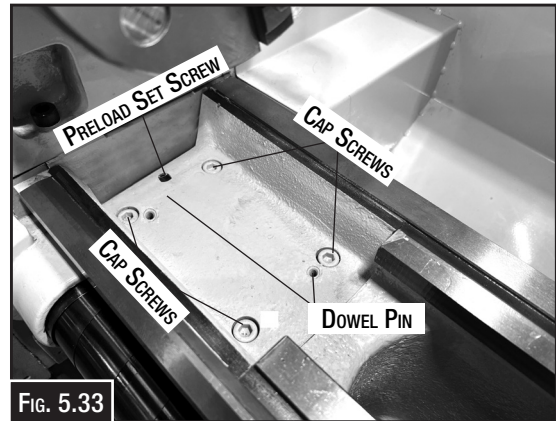

Fig. 5.33
2. Loosen the preload set screw a few turns until it no longer contacts the headstock. (Fig. 5.33).